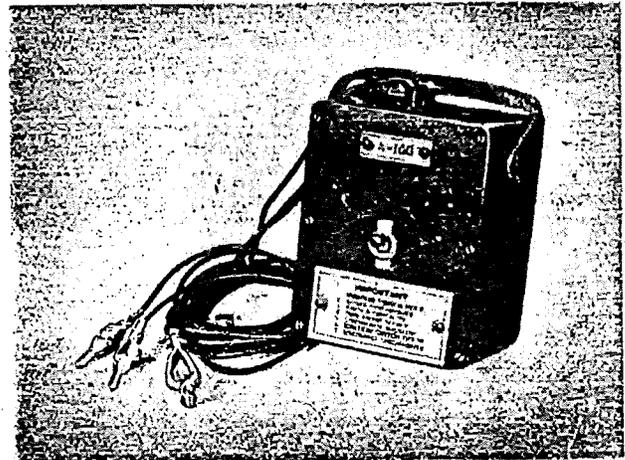

Figure 45 - Timing Light
e. Install the magneto as nearly as possible in this position. The mounting flange nuts should not be completely tightened. Check the magneto timing, using timing light, Abbott Type A-100, stock No. 8042-273875, or equivalent. (See figure 45.) Turn the magneto in the slots in the mounting flange until the correct setting is obtained. Both magneto breaker points should open at the same position of the crankshaft.